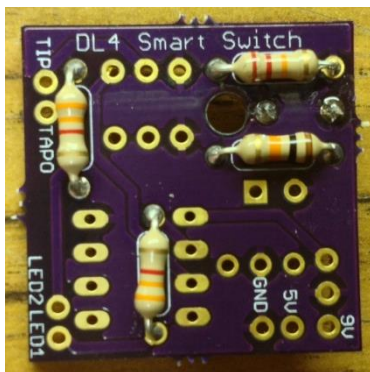

Figure 1.1
1. Install the four resistors on the backside of the PCB where their names are visible. (Figure 1.1)